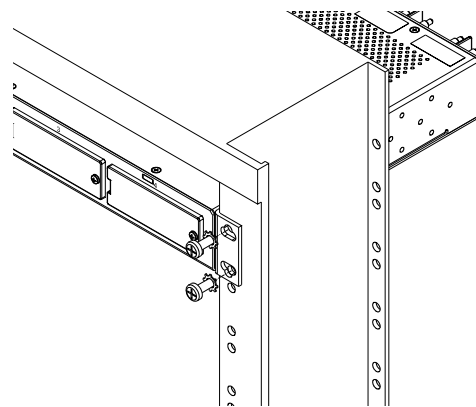

Figure 5 - Rack Mounting
5. Locate an unused rack position and mount panel using the four thread-cutting screws provided, as shown in Figure 5. Tighten the screws to 35 in.-lb (4.29 N•m).